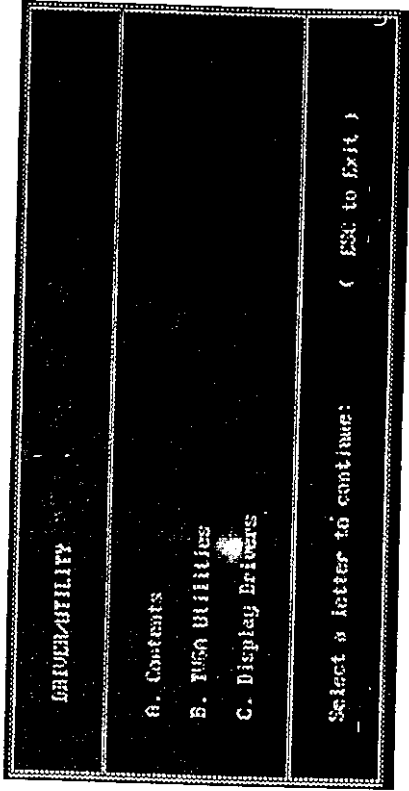

Figure 3-27.
- 4. Files and subdirectories will be expanded into the newly created directory TVGAUTIL. A new menu will then be displayed on the screen, showing a list of on-line instructions (see Figure 3-27).